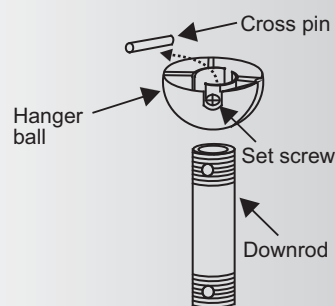

Fig. 6
Step 1. Remove the hanger ball from the downrod assembly by loosening the set screw, removing the cross pin and sliding the ball off the rod. (Fig. 6)
Thread the hanger ball onto the downrod, insert the cross pin previously removed from the ball/downrod assembly through the downrod and tighten. Now tighten the set screw previously loosened. (Fig. 6)